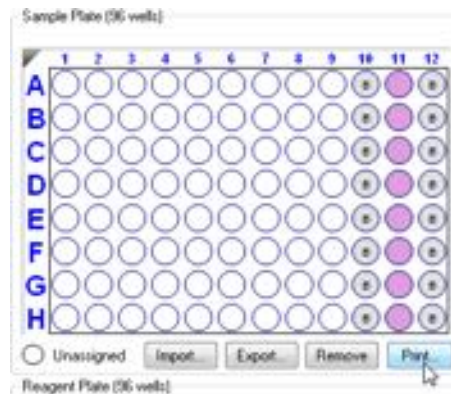

Figure 6-26: Sample Plate Print Button
- 1. In the **Sample Plate Map** (see Figure 6-26), click **Print**.